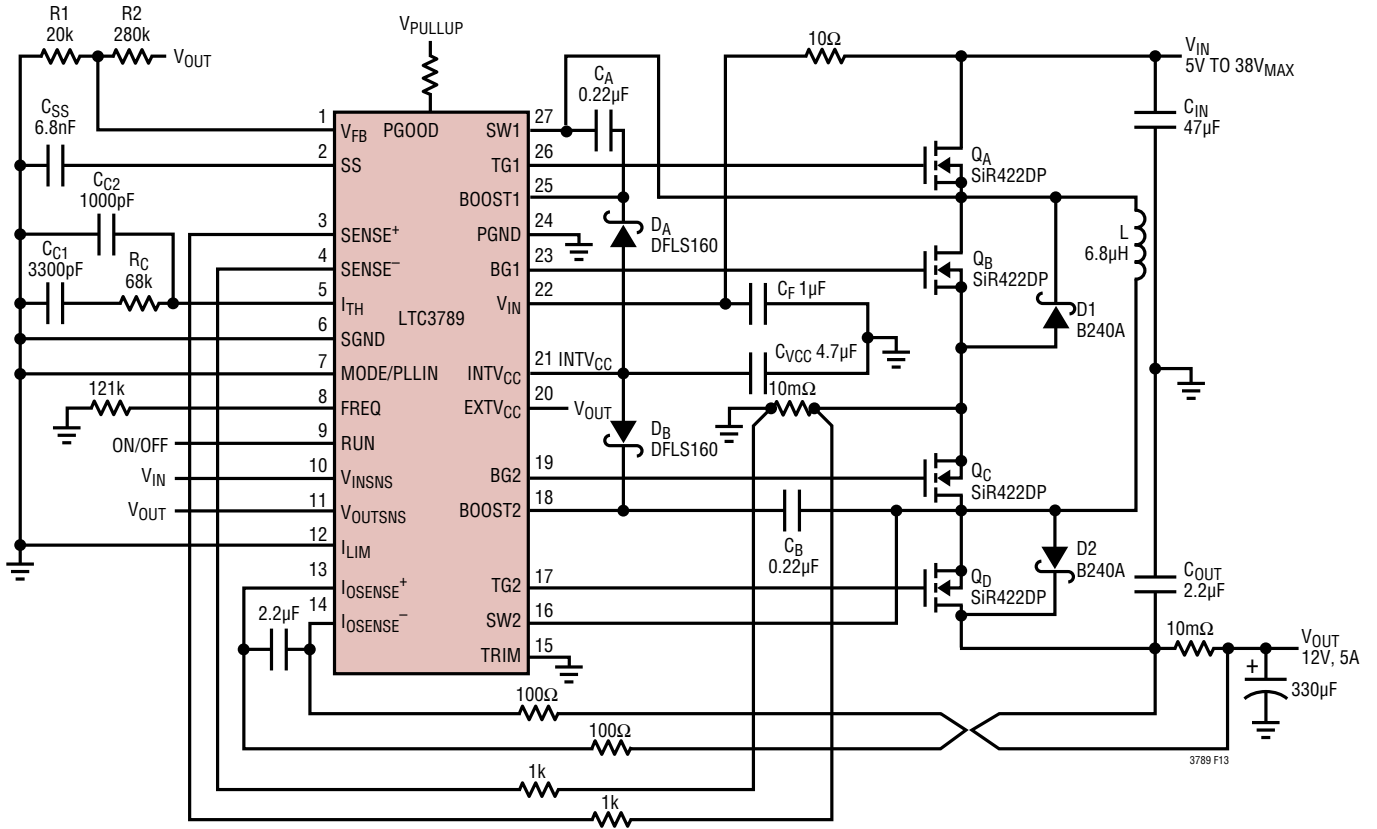

Figure 13. LTC3789 12V/5A, Buck-Boost Regulator
where R1 and R2 are defined in Figure 13.
Referring to Figure 13, the external bootstrap capacitors C_A and C_B connected to the BOOST1 and BOOST2 pins supply the gate drive voltage for the topside MOSFET switches A and D. When the top switch A turns on, the switch node SW1 rises to V_{IN} and the BOOST1 pin rises to approximately $V_{IN} + INTV_{CC}$. When the bottom switch B turns on, the switch node SW1 drops to low and the boost capacitor C_A is charged through D_A from $INTV_{CC}$. When the top switch D turns on, the switch node SW2 rises to V_{OUT} and the BOOST2 pin rises to approximately $V_{OUT} + INTV_{CC}$. When the bottom switch C turns on, the switch node SW2 drops to low and the boost capacitor C_B is charged through D_B from $INTV_{CC}$. The boost capacitors C_A and C_B need to store about 100 times the gate charge required by the top switches A and D. In most applications, a 0.1 μF to 0.47 μF , X5R or X7R dielectric capacitor is adequate.
- Flood all unused areas on all layers with copper. Flooding with copper will reduce the temperature rise of power components. Connect the copper areas to any DC net (V_{IN} or GND). When laying out the printed circuit board, the following checklist should be used to ensure proper operation of the LTC3789. These items are also illustrated in Figure 13.
| | | Updated Figure 13. | 26 |